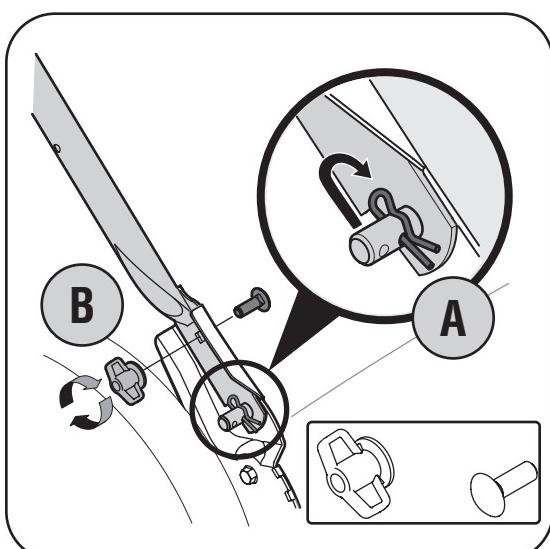

Figure 3-2
a. Remove hairpin clip from this hole. Using a pair of pliers, insert hairpin clip into the other hole on the weld pin. Repeat on other side. See Figure 3-2.